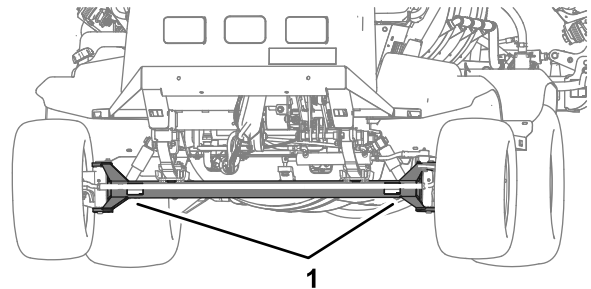
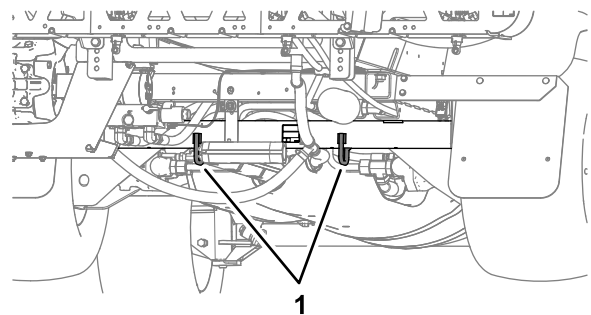

Figure 46
Figure 47
- Bind the machine securely to the transport vehicle; Figure 46 and Figure 47 illustrate the tie-down points of the machine.